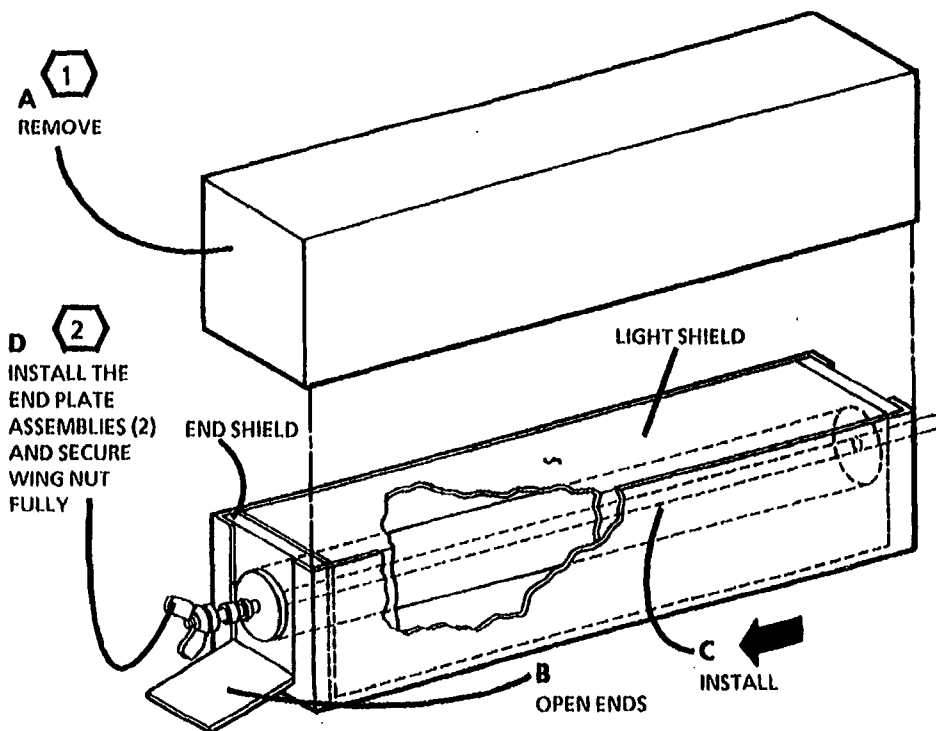

Figure 2. Installation of the Assembly Shaft
**2** STEP 1 D: Ensure that the Drum End Plates (2) are seated into the Drum fully.
1. (Figure 2): Install the Photoreceptor Assembly Shaft.